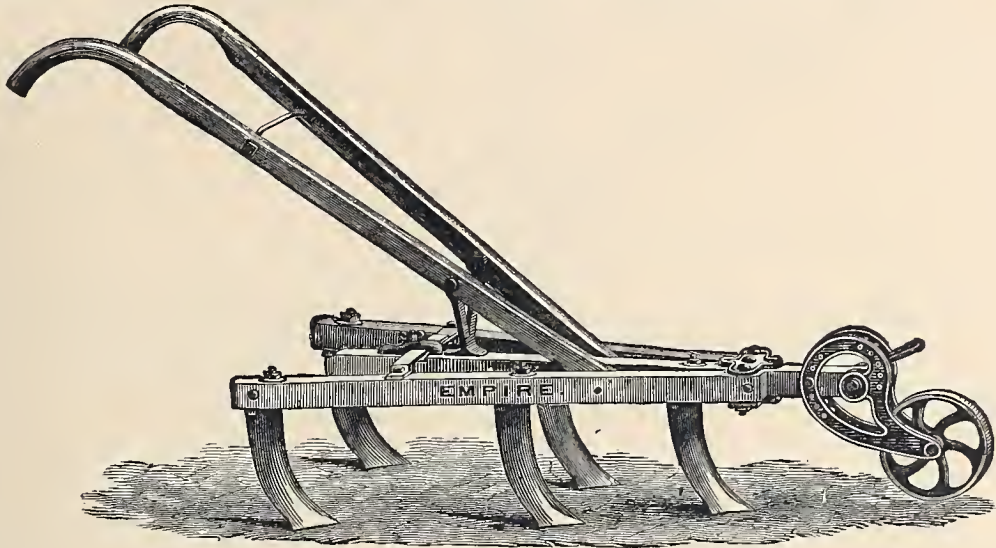

Fig. 352.—Empire Expanding Cultivator.
*The Empire Expanding Cultivator*, represented by Fig. 352, is with teeth of steel bolted to the frame, and is quite popular, being a light and efficient implement.